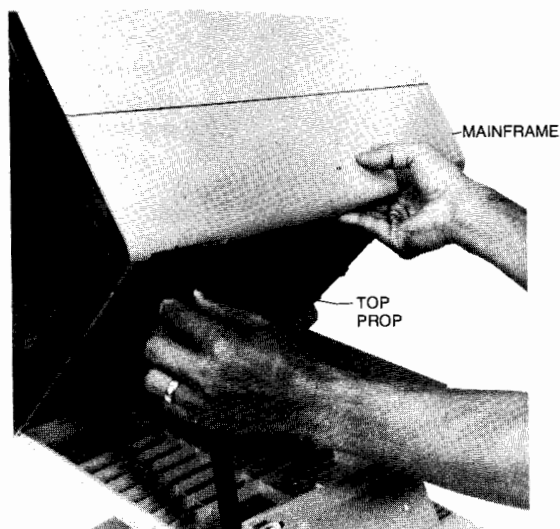

Figure 7-3. Terminal Set to the Half-Open Position
6. Squeeze the upper end of the top prop and lift the mainframe upward (see figure 7-3). Then slide the mainframe forward until it is free from the support hinge and remove.